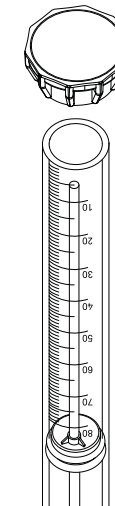

Figure 2 Remove stainless steel disk
6. Remove the bottom elastomer with the sintered stainless steel disk (Figure 2).